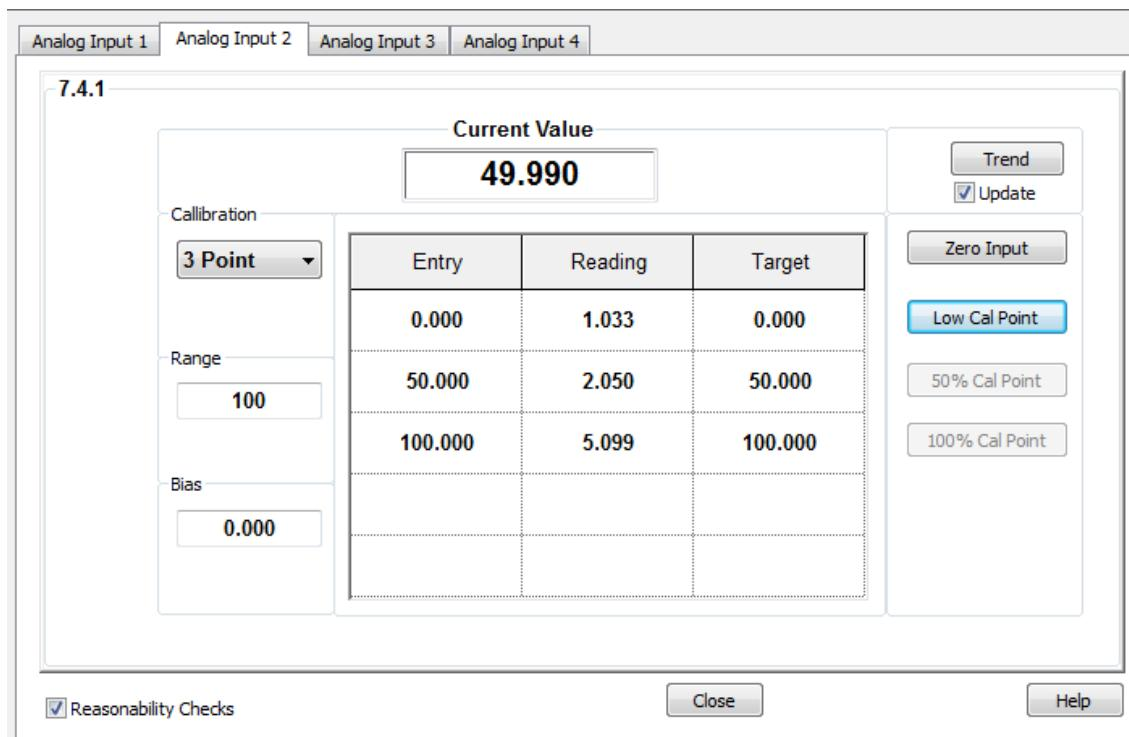

Figure 62: Calibrated AI example (current mode)
16. Verify the Entry values are updated and the Current Value field displays the calibrated value based on the range defined (Figure 62).